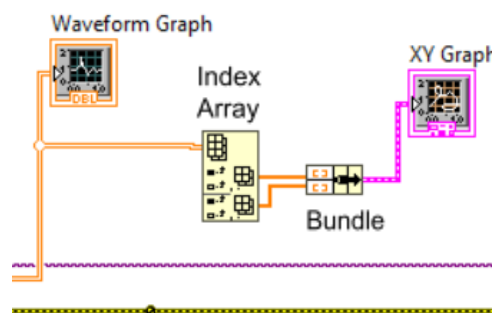

Figure 1. Passing 2 channels into a XY Graph.
n) (Optional) Use the second channel in your function generator to produce a signal with the same amplitude, frequency, and offset but with slightly different phase, and connect it to AI1. Open your DAQ Assistant and add channel AI1. Your DAQ Assistant will now acquire the two different signals as channels AI0 and AI1, and output them as one 2D array. Note that you will need to change the “From DDT” type to “2D array of scalars - rows are channels” Separate the two signal columns with the “index array” function, and bundle the two 1D arrays into a cluster before passing the cluster into an XY graph (see Figure 1). Run your VI, vary the phase difference between the two function generator signals, and note the effect on the XY graph.